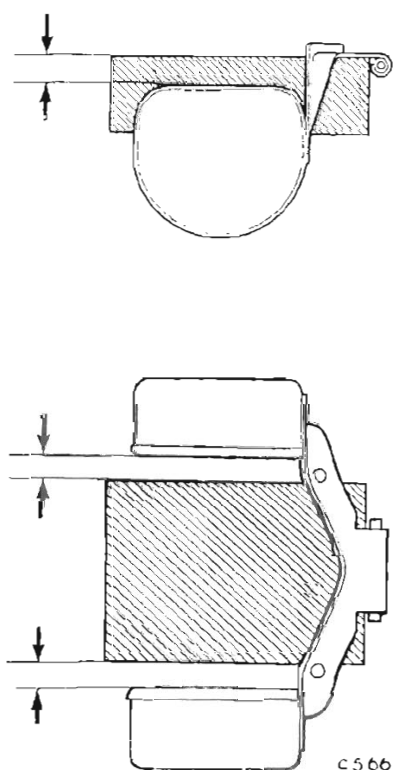

Fig. 29. Checking and adjusting float setting
7. **Float adjustment** — Using an oblong wood or metal block,  $1\frac{1}{2} \times 2 \times \frac{1}{4}$  ( $38.1 \times 50.8 \times 12.7$  mm.), place the float on the block as indicated on Fig. 29.
Using a wood or metal block,  $1\frac{1}{2}" \times 2" \times \frac{1}{2}"$  (38.1 × 50.8 × 12.7 mm.) place the float assembly as shown in Fig. 29.